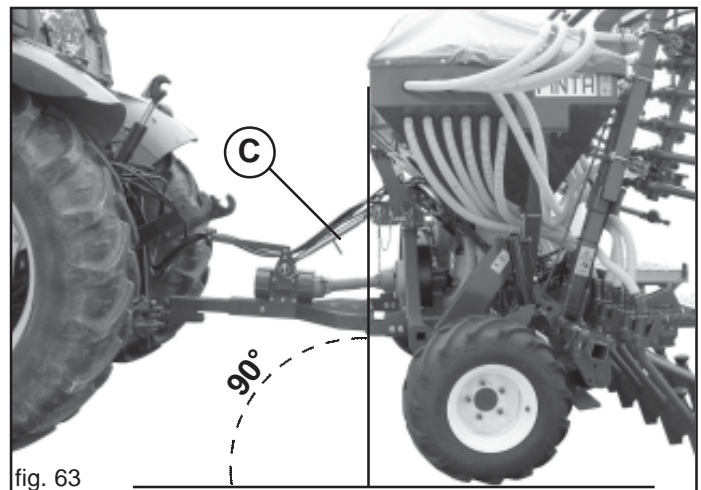

fig. 63
- 1) Attach the equipment to the tractor's load hooking bolt. Secure the load hooking bolt by means of the safety pin; using the regulating tie-rod (C, Fig. 63) ensure that the seed drill is perpendicular to the ground (Fig. 63).